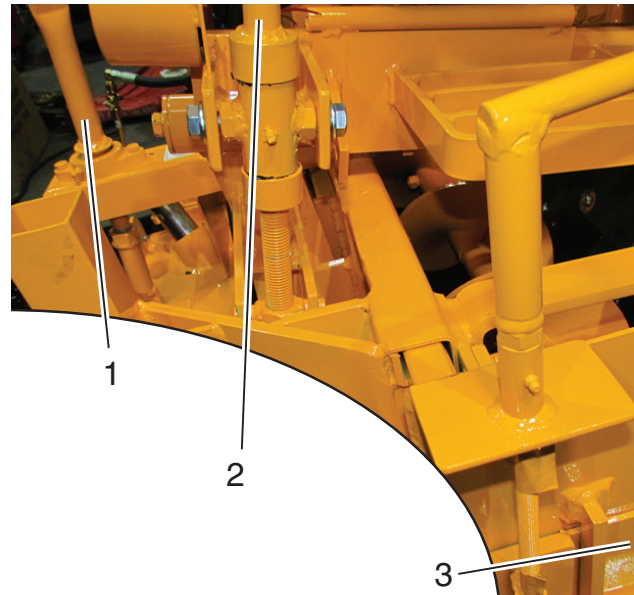

Figure 4-13. Screed Adjustment
6. Lower the screed to surface with float valve. Use angle control handle and set screed angle. Make sure screed float control valve remains in float while screed is paving allowing the screed to float over the surface. See **Figure 4-13**.